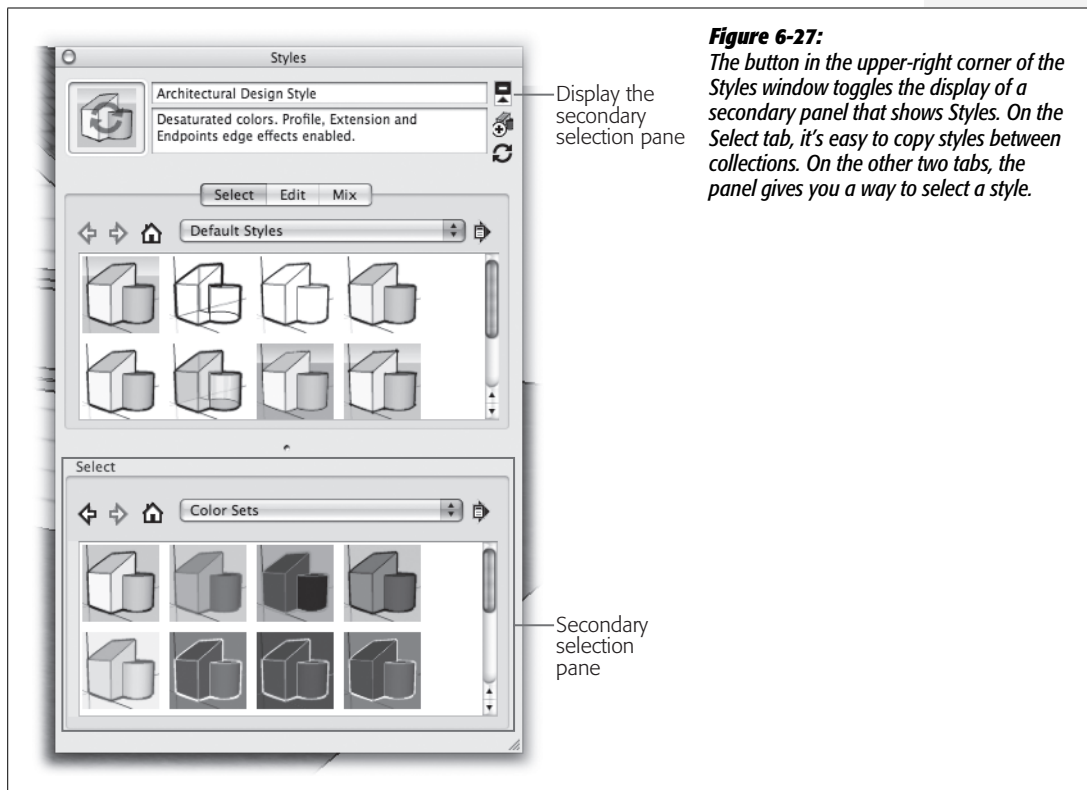

Figure 6-27:
- At the top, the **Display the secondary selection pane** button opens a new pane at the bottom of the Styles window that displays and lets you select styles (Figure 6-27). At first this may seem redundant, but actually it's helpful. The primary job of the Styles window is to apply styles. With the secondary selection pane showing, you can apply a style no matter which tab you're on in the Styles window.